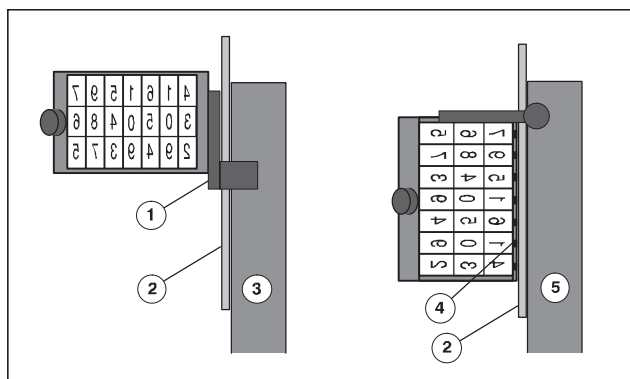

Fig. 11 Adjusting the cam
The lateral distance between the numbering box and the cam is determined using the **setting gauge** (Fig. 11/2, special accessory) (1.25 mm, Leibinger setting gauge, no. 329.422). This adjustment must be made with the utmost care, to **prevent damage**.
- **Straight numbering boxes:** a distance of 1.25 mm must lie between the control lever (Fig. 11/1) and the cam (Fig. 11/3).
- **Convex numbering boxes:** a distance of 1.25 mm must lie between the back of the rear gripper (Fig. 11/4) and the cam (Fig. 11/5).